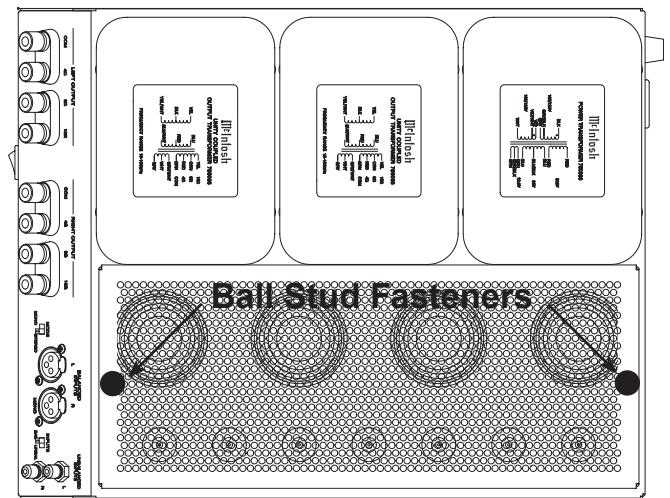

Figure 6
2. Carefully place the Tube Cover onto the MC275 while at the same time aligning the two chassis mounted ball studs with the Tinnerman Clips in the cover. Refer to figure 6.